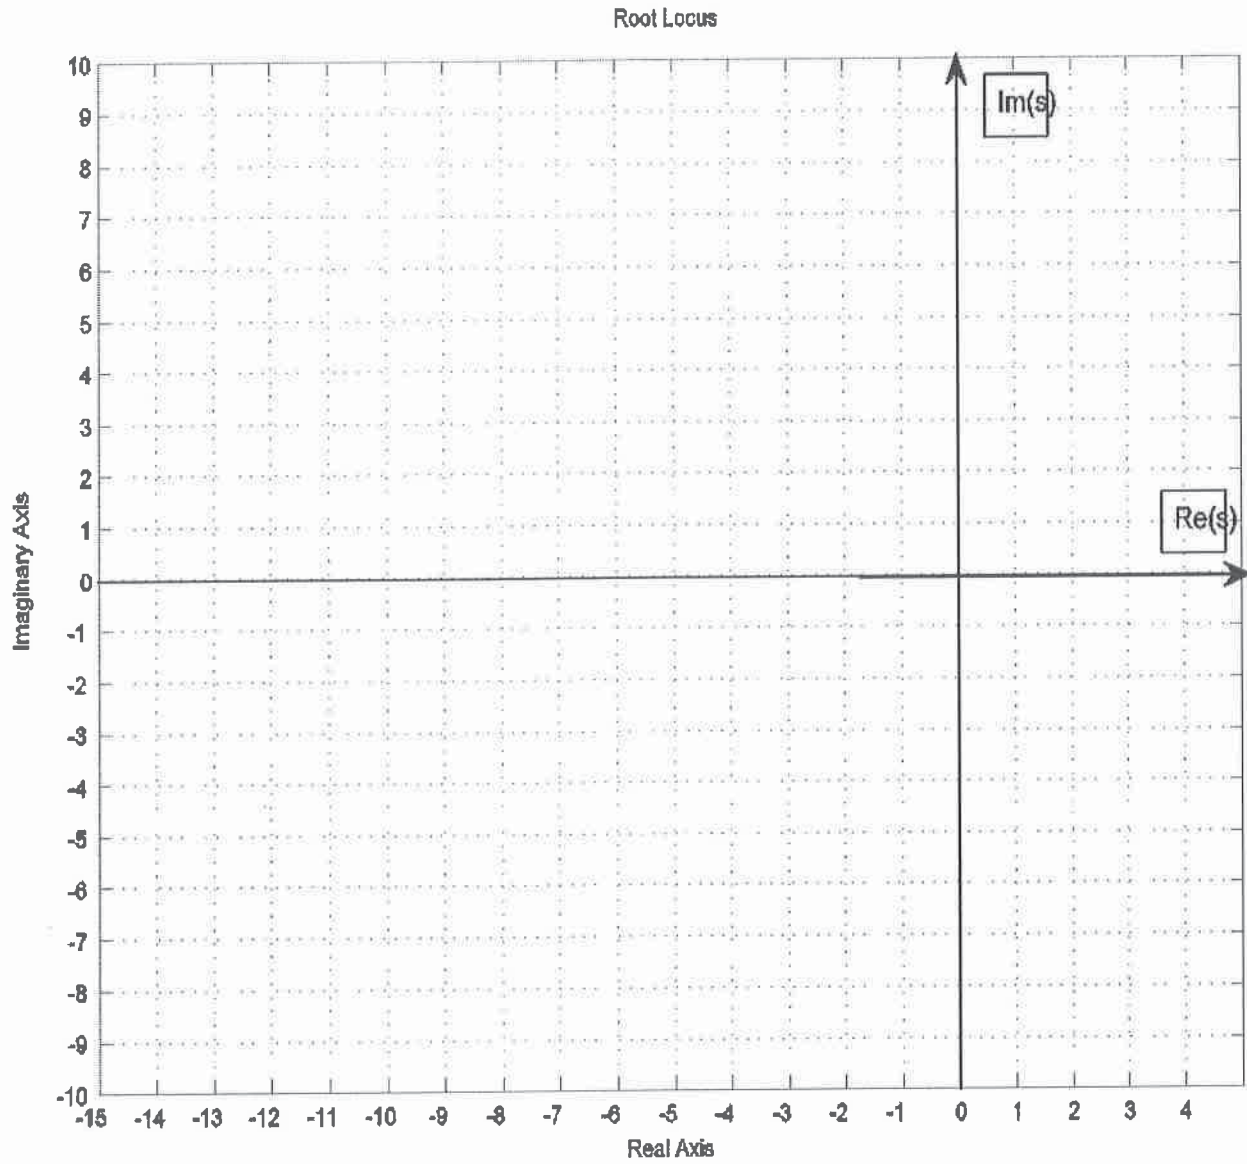

Figure Q7.1 – Place Your Root Locus Graph Here
- 1) **(10 marks)** In the space provided in Figure Q7.1, sketch a detailed Root Locus for the system, including crossovers with the imaginary axis, if any, break-away/break-in coordinates, if any, asymptotes, if any, a centroid, etc. if you are using estimates, explain why.
- 3) **(5 marks)** Find the closed loop transfer function at the operational gain as calculated in item 2. Assume that the system closed loop behaviour can be approximated by a second order model. Determine the remaining model parameters  $K_{dc}$  and  $\omega_n$ , and write the model transfer function  $G_m(s)$ . What will the expected values be of the following specs of the closed loop step response: Percent Overshoot (PO), Settling Time ( $T_{settle(\pm 2\%)}$ ), Rise Time ( $T_{rise(0-100\%)}$ ), and the Steady State Error ( $e_{ss(step\%)}$ )?